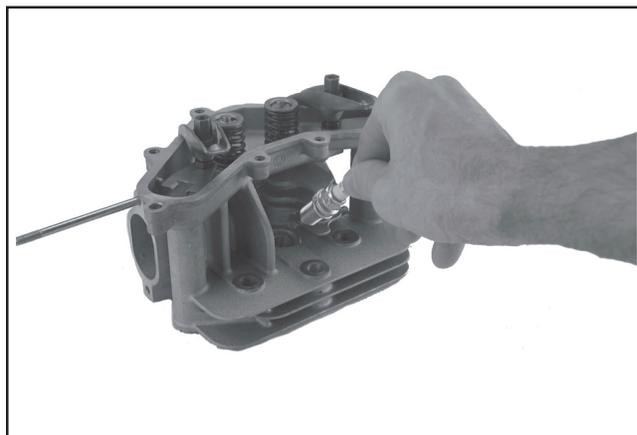

**Figure 8-31. Removing Drain Back Check Ball from Crankcase.**
6. Remove the drain back check ball from the keyhole slot in the crankcase. See Figure 8-31.